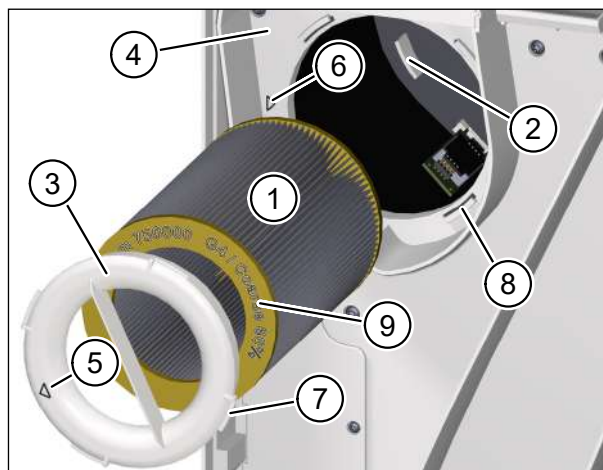

Fig. 18: Inserting the new extract air filter
- ▶ Carefully guide the new extract air filter (item 1 in Fig. 18) into the ventilation unit.
- ▶ Make sure that the air filter slides into the 3 retaining tabs (item 2 in Fig. 18) on the back wall of the ventilation unit.
- ▶ Place the filter ring (item 3 in Fig. 18) on the extract air filter. Make sure that the filter ring lies flat on the intermediate plate (item 4 in Fig. 18).
- ▶ Turn the filter ring clockwise until the arrow on the filter ring (item 5 in Fig. 18) lines up with the arrow for the locking position (item 6 in Fig. 18). Make sure that the 4 tabs (item 7 in Fig. 18) on the filter ring engage in the retainers (item 8 in Fig. 18) on the intermediate plate.
- Only M-WRG-II FS, part no. 750000, may be used as the extract air filter. The part no. and air filter class are imprinted on the yellow end plate of the air filter (item 9 in Fig. 18).